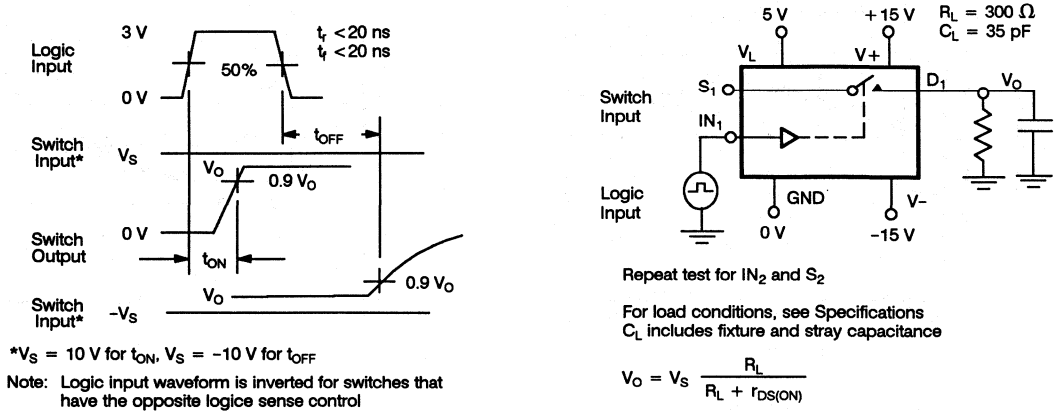

Figure 1. Switching Times
*Refer to Figure 1 for test conditions.